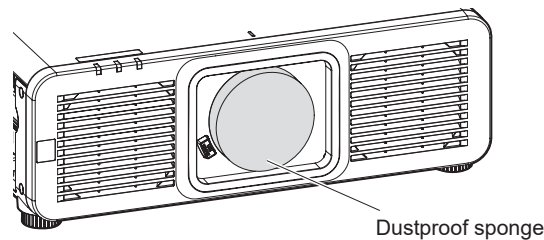

Fig.1
1) Remove the dustproof sponge. (Fig. 1)